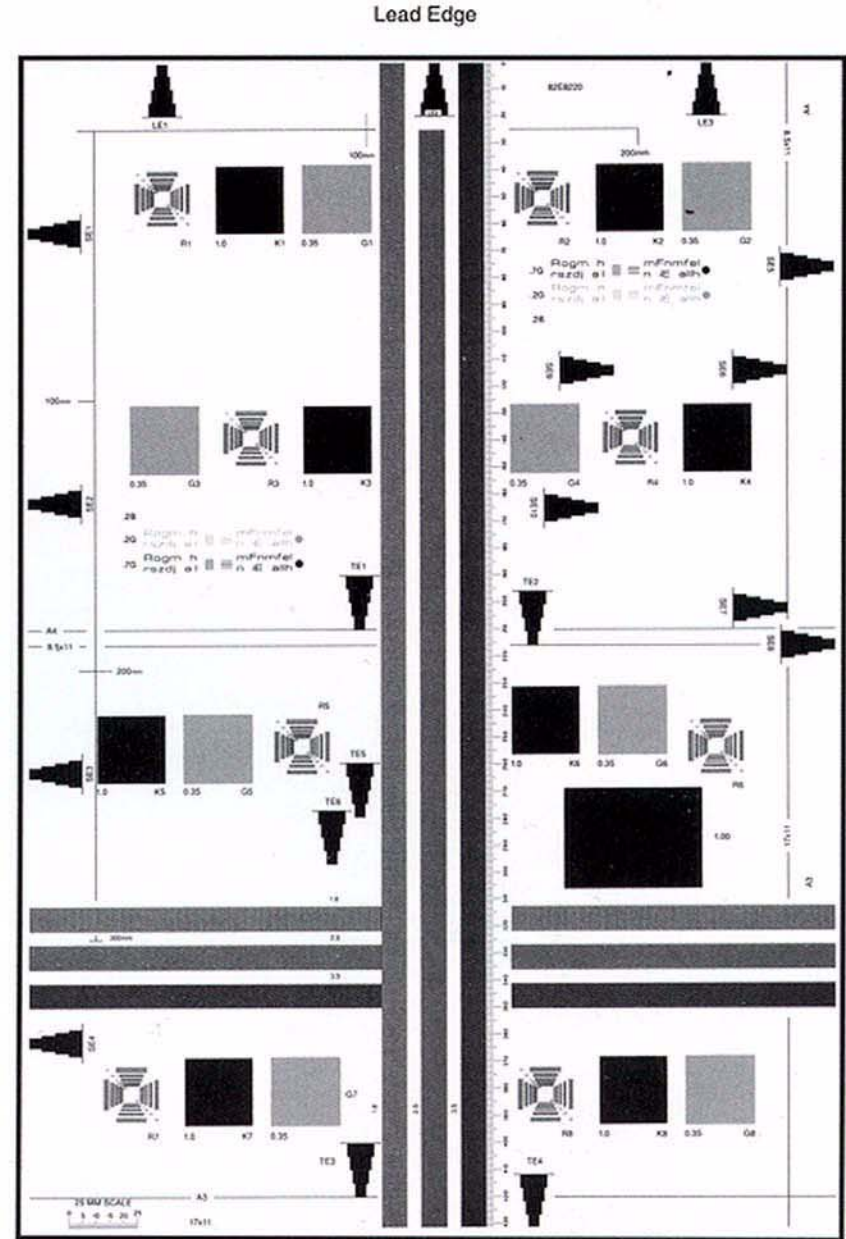

Figure 2 Color and Geometric Test Patterns
3. Compare the copy to the test pattern. Refer to Figure 2 and Table 1 for this evaluation.
AREA (Fig. 2)	Check for the Following Results